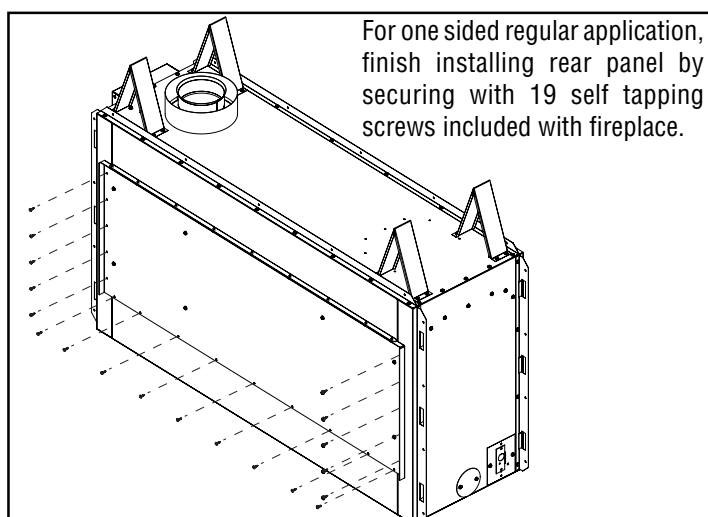

Figure 33 - Installing Rear Panel for One Sided Regular Applications
1. Using self-tapping screws provided and holes on rear panel as a guide, screw the rear panel to the fireplace as shown in **Figure 33, Page 27**.